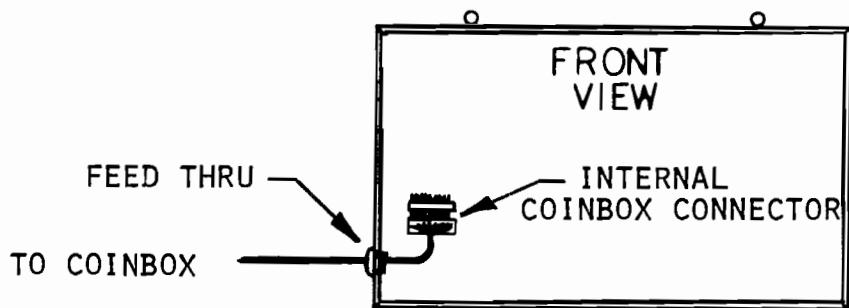

FIGURE 2
- Connect game as illustrated in FIGURE 2.